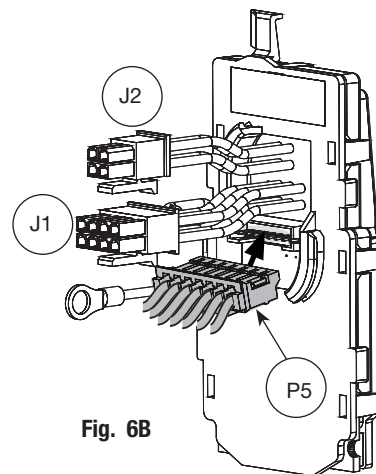

Fig. 6B
- Connect pin 5 green/yellow ground wire ring terminal to top right screw (Fig. 6b and 6c).
b. Connect ElectroLynx harness (4 and 8-pin) from door harness to ElectroLynx harness on interior PCB assembly (Fig. 6B).
c. Attach the mounting plate to the mounting bracket using (2) mounting plate screws (Fig. 6B).